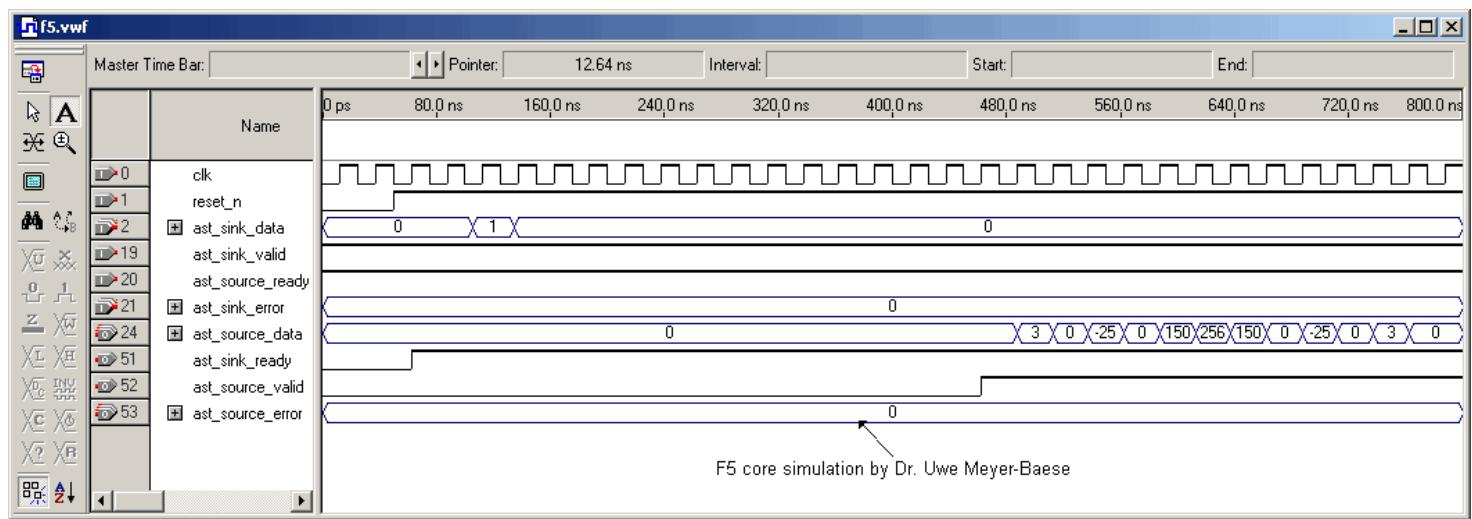
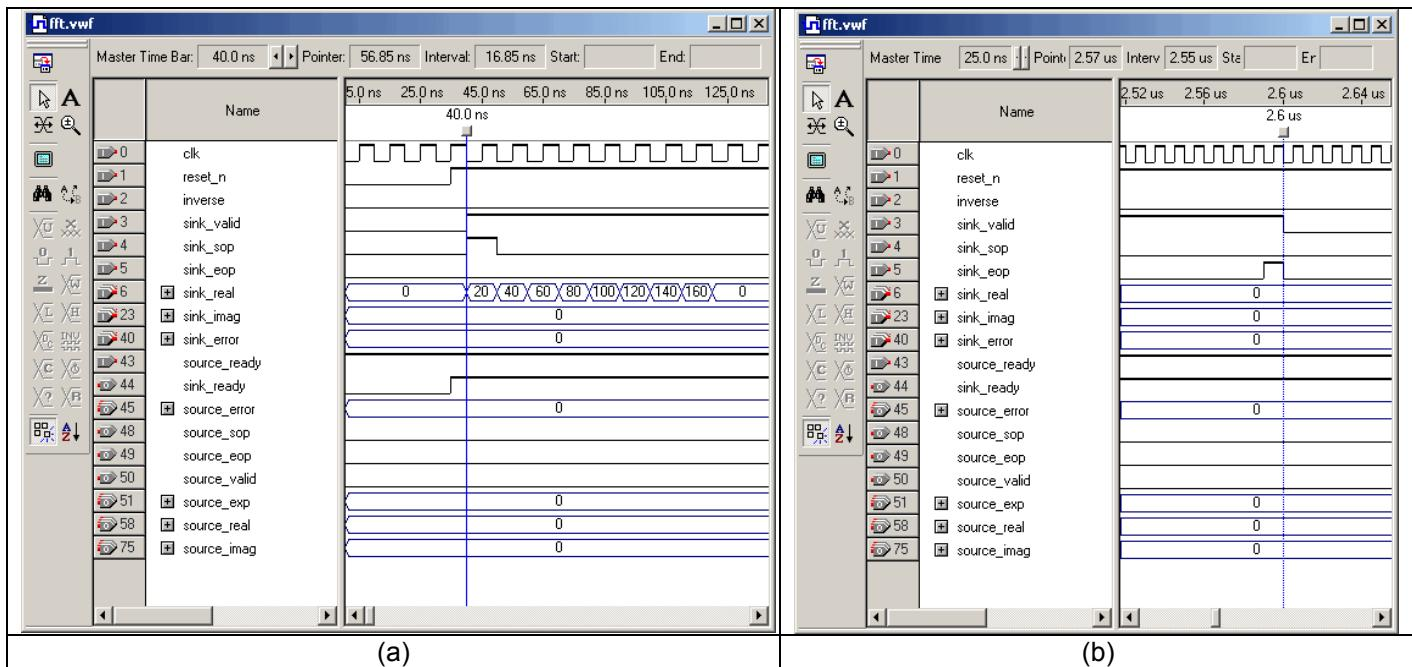

Figure 2: f5.vhd PDA core simulation.
Figure 3: FFT **input** data specification (a) Start Of (data) Package (b) End Of (data) Package.
3. Perform a Functional Simulation of the design **f5.vhd** with the impulse response and try to match with the **f5** simulation shown in Figure 2. The following **input** port needs to be specified: **clk, reset_n, ast_sink_data, ast_sink_valid, ast_source_ready, ast_sink_error**. Remember that **reset_n** is active low and “sink” are input signals and “source” are output signals! All filter coefficients should be seen in the output signal **ast_source_data**. Add your e-signature and print this simulation in landscape format.
3. Perform a **Functional Simulation** of the design `fft.vhd` with the testbench data from the prelab, i.e., $x=20:20:160$ as in Figure 3. The following **input** ports need to be specified: `clk`, `reset_n`, `inverse`, `sink_valid`, `sink_sop`, `sink_eop`, `sink_real`, `sink_imag`, `sink_error`, `source_ready`. Remember that `reset_n` is active low and `sink_sop` is needed to be high one clock cycle when the sequence starts and `sink_eop` is high one clock cycle when the sequence ends. Make sure the input sequence is exact 256 cycles long. Use a `clock = 10ns` for easy counting clock cycles. The output data start at 5.3 μ s and the end is at 7.8 μ s.
2. Complete this report, print the Quartus simulations for f5 (see Fig. 2) and 4 simulations for the length-256 FFTs (see Fig. 3 and 4) including e-signature. (7 points).